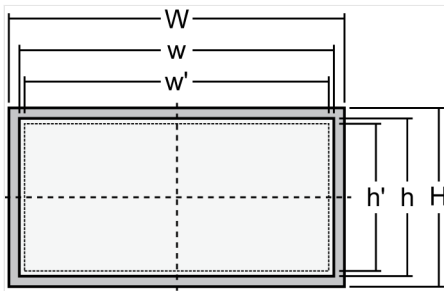

Fig. 11: Cutout schematic
1. > Cut out the panel according to the dimensions in Fig. 11.